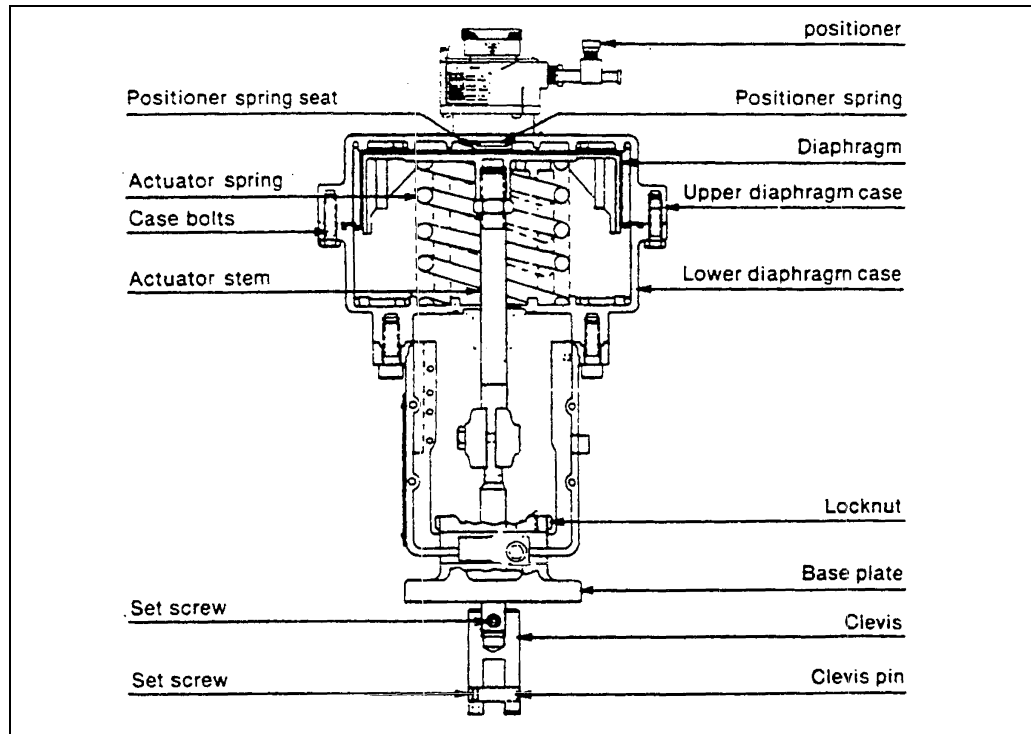

Figure 7 – Thrust Model (Direct Acting)
Range adjustment is changed by the six adjustment screws (1) and (2). Refer to Figures 7 and 8. The start point is adjusted by turning the knob on top of the positioner. The graduations of the external calibration scale on the knob represent values within the different ranges. Refer to Table C for adjustment. All positioners are factory set for 3 psi start point and 12 psi range.